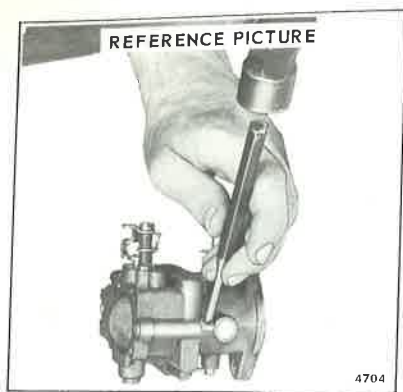

Figure 3-15. Re-seating Lead Shot
a. If leakage is slight, a smart tap with a hammer in the center of the lead shot will normally correct this condition. See Figure 3-15.